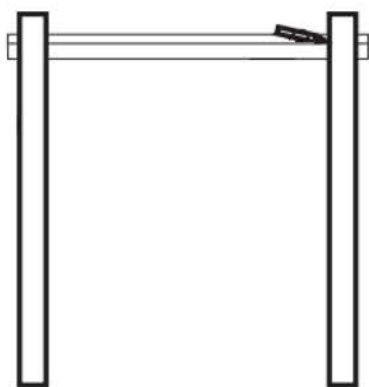

Fig. 7
1. Mark the aluminum bottom rail, bottom rail covers, and top rail for length by holding them next to the post.* (see Fig. 7).